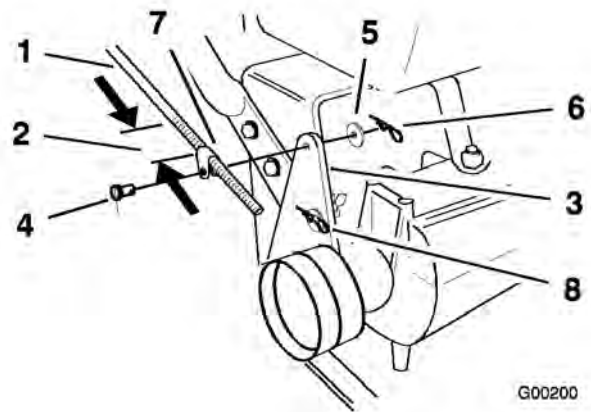

Figure 10
2. Make sure the rod fittings are equal distance onto each control rod. The rod fittings should be approximately 3-1/2 inch (89 mm) from the start of the threads for the handles lowest position (Figure 10).
3. Slide clevis pins through rod fittings and mounting holes in idler brackets (from outside) (Figure 10). Secure with washers and hairpin cotteners (Figure 10).